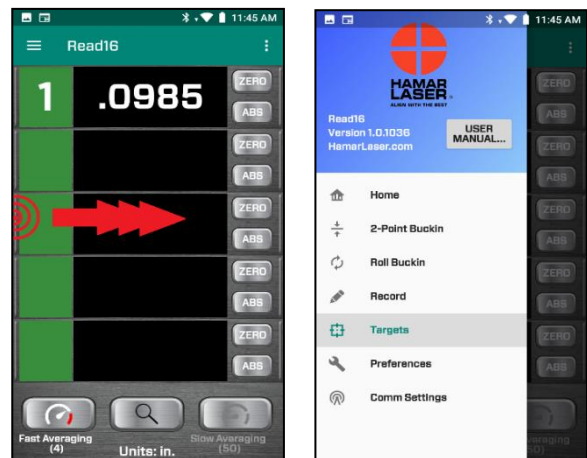

Figure 2 – Swipe from left edge to open MENU
-  Select the three bars in the upper left part of the screen (see Figure 2).